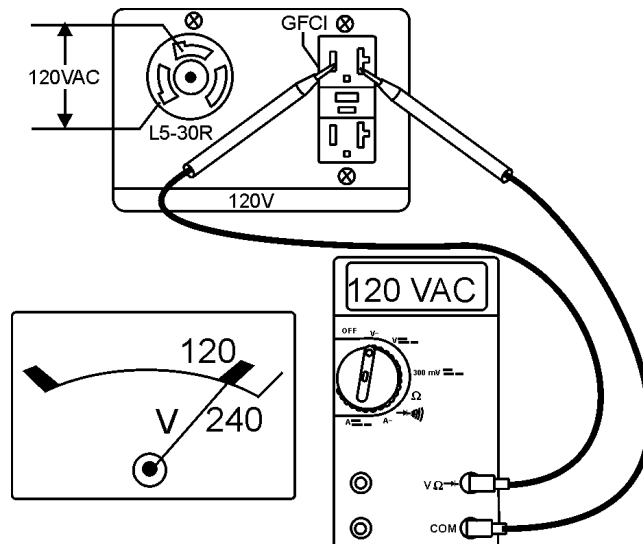

Figure 21. 120V GFCI/AUX. Receptacles
- Read voltmeter on front panel of generator (Figure 21) and verify that 120 VAC is displayed. Using an external voltmeter as shown in Figure 21, verify that 120 VAC is present at the 120V twist-lock and GFCI duplex receptacles..